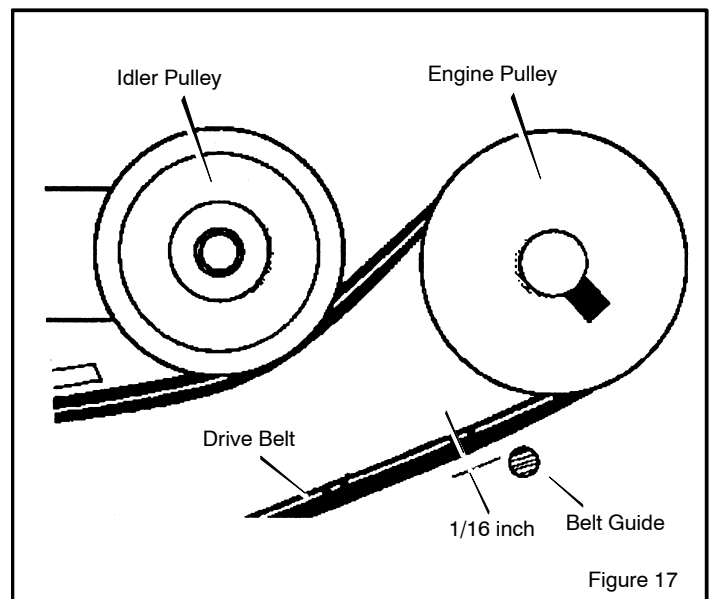

Figure 17
**NOTE: When the auger control lever is engaged, the belt guides must be 1/16" from the drive belt . (See Figure 17)**